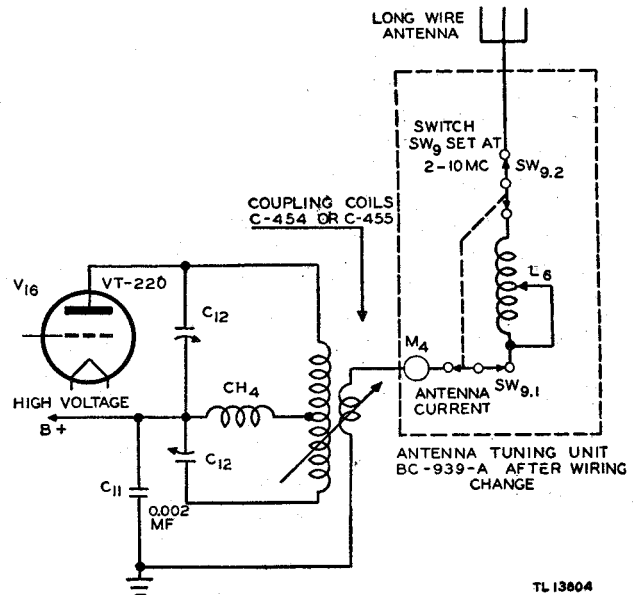

Figure 43. P-a plate circuit and Antenna Tuning Unit BC-939-A—schematic diagram.
(1) A means must be provided for tuning the oscillator, buffer-doubler, and i-p-a stages over the range of 2.0 to 1.0 mc.
(2) The p-a tank circuit must be provided with increased inductance and capacitance to tune over the required frequency range.
(3) The antenna must operate efficiently on frequencies from 1.0 to 2.0 mc, and a means must be provided for coupling the antenna to the p-a tank circuit.
(4) The function of the electrical components of Frequency Conversion Kit MC-509, which make possible the extended frequency range of Radio Transmitter BC-610-E, is discussed in *b*, *c*, and *d* below.
*d. ANTENNA SYSTEM.* To secure efficient operation of the transmitter on frequencies from 1.0 to 2.0 mc, a long wire antenna is used. The antenna operates as a grounded quarter-wave antenna. For frequencies from 1.0 to 1.5 mc the physical length of the antenna is 125 feet, and for frequencies from 1.5 to 2.0 mc the physical length is 75 feet. Electrically, these antennas are much shorter than a quarter-wavelength; therefore, tuning the antenna to resonance at the operating frequency requires the use of a variable series inductance. By making a slight wiring change in Antenna Tuning Unit BC-939-A, coil  $L_6$  is connected in series with the antenna and the variable coupling link of the p-a tank coil. Figure 43 is a schematic diagram of the p-a plate circuit and Antenna Tuning Unit BC-939-A, after the tuning unit wiring has been changed. The antenna, being shorter than a quarter-wavelength, represents a highly capacitive load to the transmitter. However, the antenna can be tuned to resonance at the operating frequency by the proper adjustment of coil  $L_6$ . When the antenna is tuned to resonance, maximum r-f current is indicated by ANTENNA CURRENT meter  $M_4$  and the an-